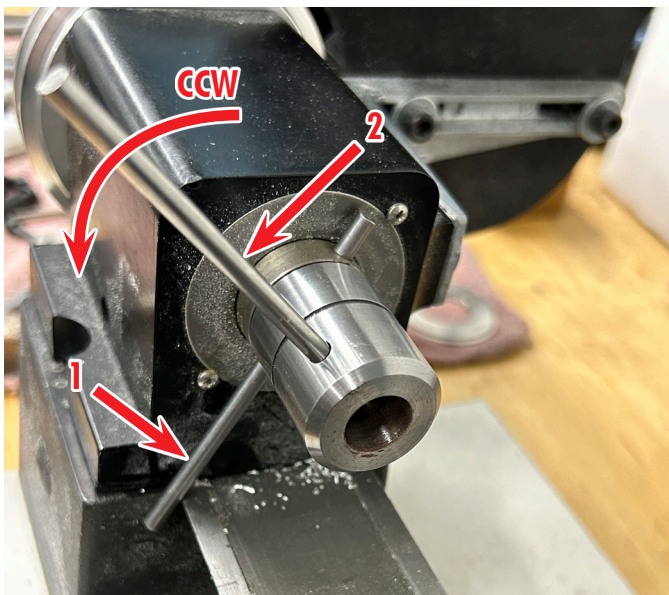

FIGURE 1—#1 shows the Tommy bar inserted through the headstock spindle. #2 shows the Tommy bar inserted in the access hole of the holding device.
2. Place another Tommy bar in the access hole of the chuck or end mill holder to orientate the holder so this Tommy bar can be forced towards the bed in a counter-clockwise rotation of the chuck or end mill holder (as viewed from the bottom of the holder) (see Figure 1).